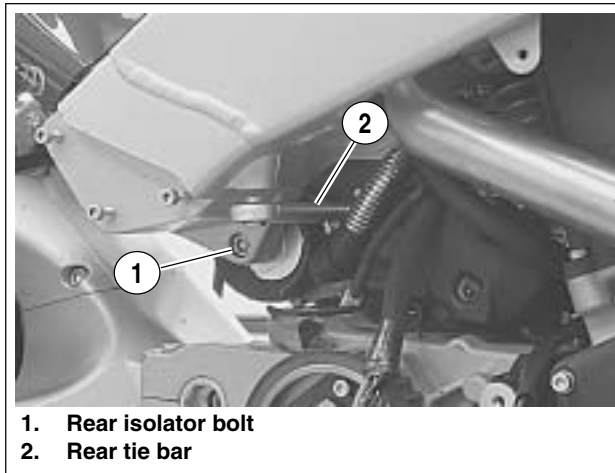

Figure 3-7. Rear Isolator Bolt and Rear Tie Bar
21. See Figure 3-7. Remove rear tie bar from frame only.